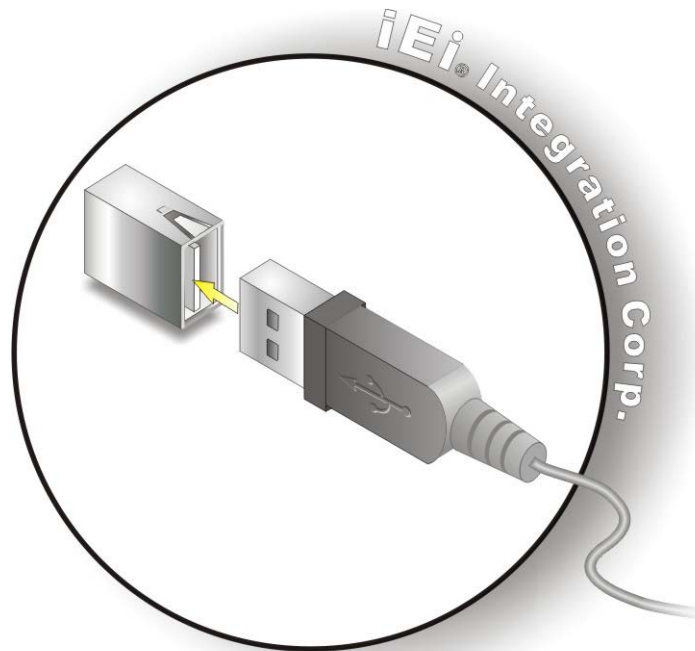

Figure 4-16: USB Device Connection
Step 2: Align the connectors. Align the USB device connector with the connector on the PCIE-H610. See **Figure 4-16**.